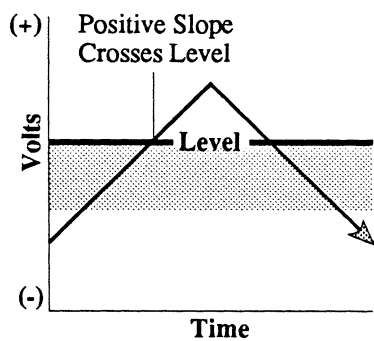

Figure 3 - The signal must pass through the entire Sensitivity window and cross the threshold Level.
4. The signal must cross the selected trigger **Level** with the proper slope (Figure 3 illustrates this using positive slope triggering as an example). See *page 13-8*.